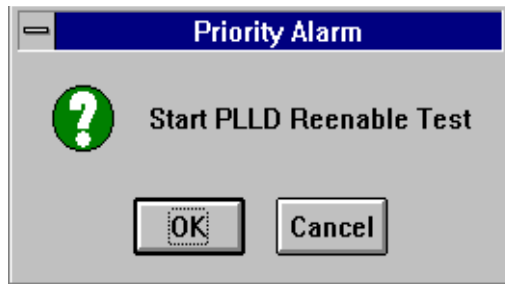
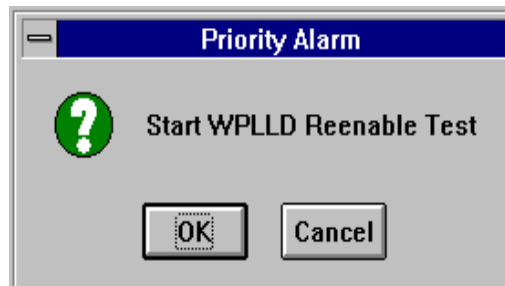

Figure 15. PLLD Priority Alarm Window
Figure 16. WPLLD Priority Alarm Window
2. A Priority Alarm window appears; in the following examples there are PLLD [Figure 15] and WPLLD [Figure 16] alarms. Cover the dispenser handles or take other measures to prevent them from being lifted. If a pump handle is lifted during the Reenable test, the submersible pump will again be shut down and the alarms reactivated.